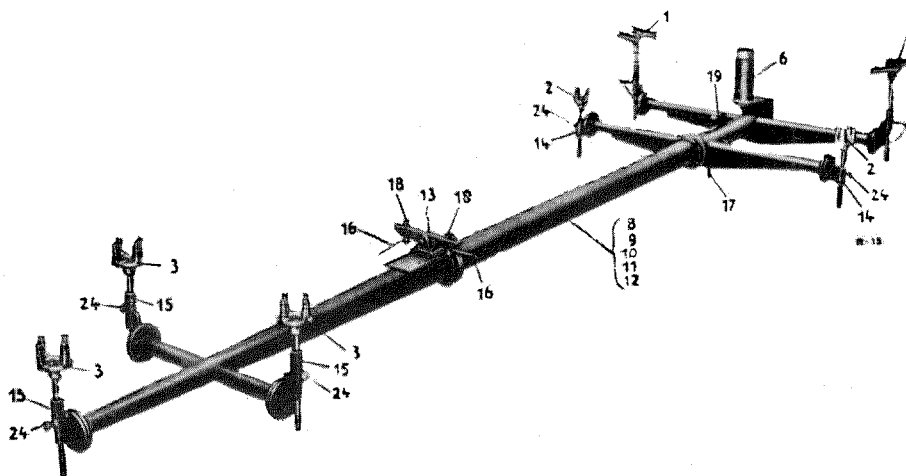

Fig. 61 — 1/1
The Chassis Base Panel Gage 120 589 08 23 (Fig. 61 — 1/1) is supplied by our Sindelfingen works together with the following accessories:
- 2 rear supports (1)
- 2 rear holding cradles (2)
- 3 front holding cradles (3)
- 2 rear checking devices (4) (see Fig. 61 — 1/5)
- 3 front checking devices (5) (see Fig. 61 — 1/6)
- 1 locking device for single-jointed rear axle (6)
- 1 locking device for twin-jointed rear axle (7) (see Fig. 61 — 1/2)
- 1 adapter tube 970 mm long for Model 190 SL (8)
- 1 adapter tube 1220 mm long for Models 180, 180 D, 190 (9)
- 1 adapter tube 1390 mm long for Models 220 a, 220 S (10)
- 1 adapter tube 1270 mm long for Model 220 CA (11)
- 1 adapter tube 1320 mm long for Model 219 (12)
- 1 front support (13)
- 2 rear holders (14)
- 3 front holders (15)